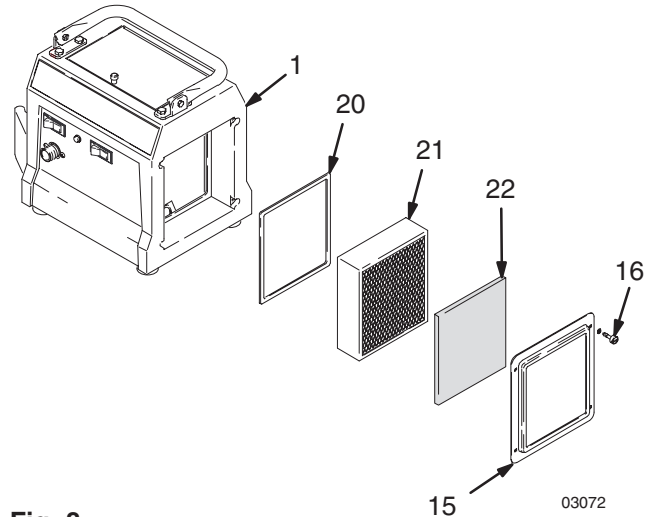

Fig. 8
2. Loosen four thumbscrews (16), and remove filter retainer (15) and pre-filter (22). See Fig. 8.
3. Remove main filter (21) and clean by using one of the following three methods: